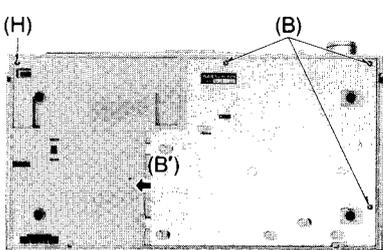

Fig. 2
<p>A Head position adjustment</p> <p>Condition:</p> <ul style="list-style-type: none"> • Playback and pause mode 	<p>(The head adjusting plate is provided to adjust the tape touch of the head in cue or review mode)</p> <ol style="list-style-type: none"> 1 Press the playback button and pause button 2 Measure the space between the pressure roller and the capstan. <div style="border: 1px solid black; padding: 5px; width: fit-content; margin: 10px auto;"> <p>Standard value: 0.5 ± 0.3 mm</p> </div> <ol style="list-style-type: none"> 3 If the measured value is not within the standard value, untighten screw (A), and slide the head adjusting plate in the direction of arrow (B) for adjustment  <p style="text-align: center;">Fig. 2</p>